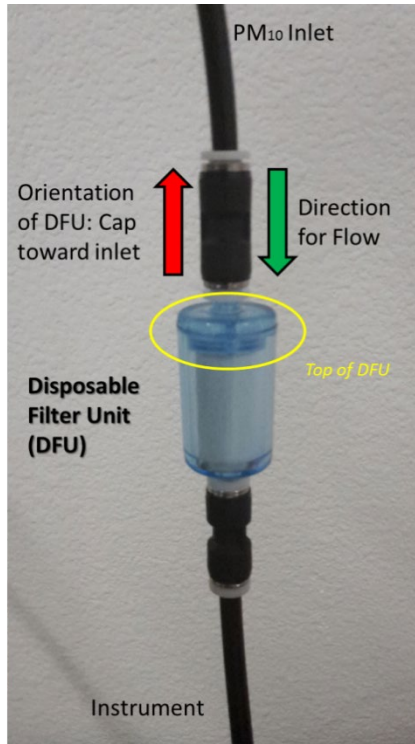

Figure 5. External DFU
10. Noting its orientation at the back of instrument, detach the filter from the quick-connect fittings and replace it with new filter (Figure 5).